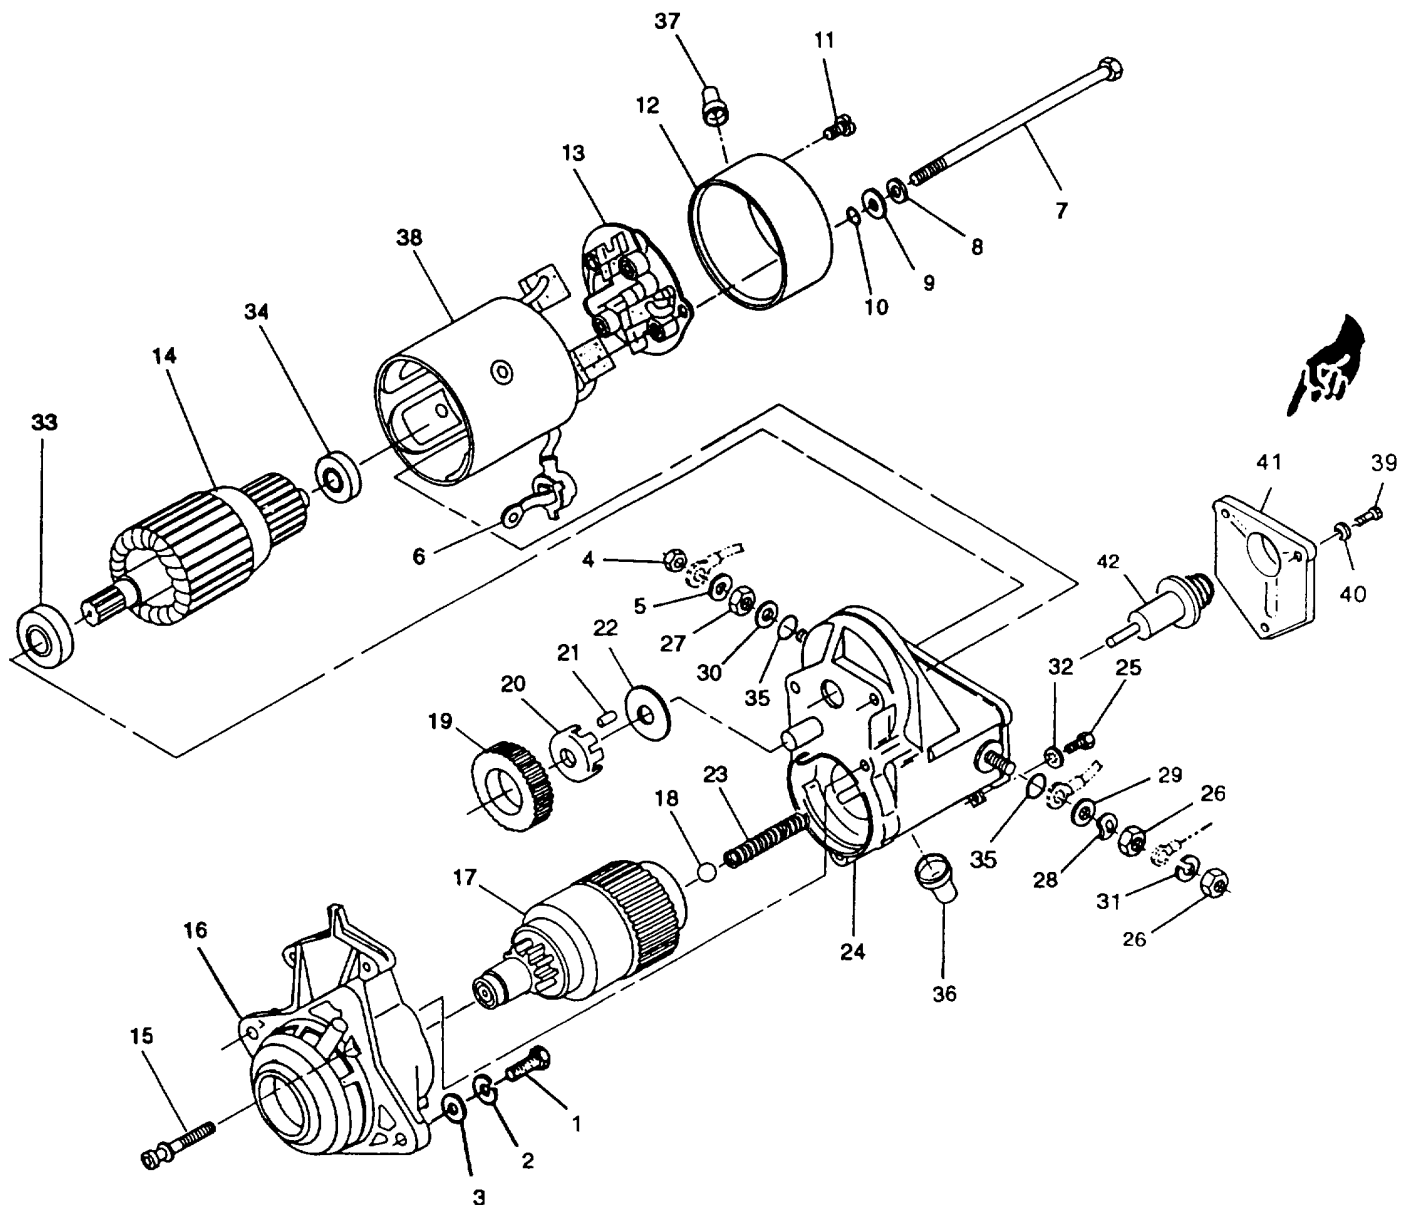
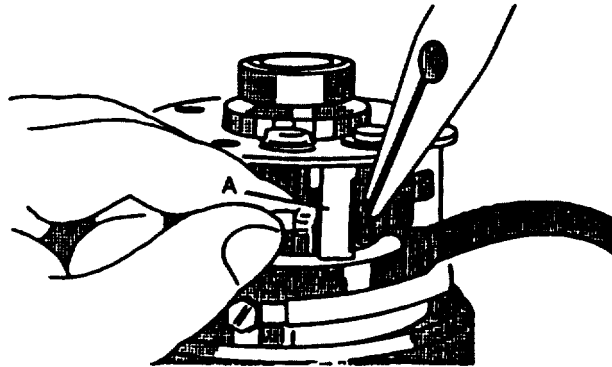

FIGURE 3-15. Starter Assembly
FIGURE 3-16. Removing Brush Holder Assembly
- d. Support weight of starter and remove two screws (1, FIGURE 3-15), lockwashers (2), and washers (3) securing starter to flywheel housing. Remove starter and discard lockwashers (2).
- a. Remove nut (4, FIGURE 3-15) and washer (5).
- b. Disconnect yoke assembly lead wire (6) at magnetic switch assembly (24).
- c. Remove two through bolts (7), lockwashers (8), washers (9), and preformed packings (10). Discard lockwashers (8) and preformed packings (10).
- d. Remove two screws (11) and starter end frame (12). Remove yoke assembly (38).
- e. Lift brush springs and remove brushes from brush holder (13). Remove brush holder assembly (13), refer to FIGURE 3-16.
- f. Remove armature (14, FIGURE 3-15) from magnetic switch assembly (24).
- g. Remove three screws (15) from housing (16). Remove housing (16) from magnetic switch assembly (24).
- e. Inspect bearings (33 and 34, FIGURE 3-15) for wear and damage. If damaged or worn, replace bearings using a press.
- Install contact (42, FIGURE 3-15), end plate (41), washers (40), and screws (39) in magnetic switch assembly (24).
- If removed, install nuts (26 and 27), washers (28 thru 30), lockwashers (31 and 32), and screw (25)
- Apply general purpose grease (630AA) to retainer (20), rollers (21), overrunning clutch (17), steel ball (18), spring (23), and bearings (33 and 34).
- Install washer (22) and spring (23) in magnetic switch assembly (24).
- e. Install five rollers (21), retainer (20), and starter pinion (19) in housing (16).
- f. Place steel ball (18) in overrunning clutch (17) and install both in housing (16).
- g. Position assembled housing (16) on magnetic switch assembly and secure with three screws (15). Tighten screws 5.1 to 8.7 ft-lbs (6.9 to 11.8 Nm).
- h. Install armature (14) in magnetic switch assembly (24).
- i. Position brush holder (13). Lift springs and install brushes, refer to FIGURE 3-16. Ensure negative brushes (connected to brush holder) are installed in negative holes (not insulated) and positive brushes (connected to yoke) are installed in positive holes (separated from plate with insulator). Ensure positive brush leads are not grounded.
- j. Position cover (12, FIGURE 3-15) on yoke (38) engaging tab on cover with lead wire grommet. Secure with two screws (11). Tighten screws 1.95 to 3.40 ft-lbs (2.6 to 4.6 Nm).
- k. Position yoke assembly (38) on magnetic switch assembly (24) engaging tab on yoke assembly with notch in magnetic switch. Secure with two through bolts (7), new lockwashers (8), washers (9), and new preformed packings (10). Tighten through bolts 5.1 to 8.7 ft-lbs (6.9 to 11.8 Nm).
- l. Connect yoke assembly lead wire (6) to terminal on magnetic switch assembly with washer(s) and nut (4). Tighten nut to 18.1 to 26.0 ft-lbs (24.5 to 35.3 Nm). Ensure rubber boot (36) is installed securely.
- b. Place starter on flywheel housing and secure with two screws (1, FIGURE 3-15), new lockwashers (2), and washers (3). Tighten screws 30 to 35 ft-lbs (41 to 47 Nm).